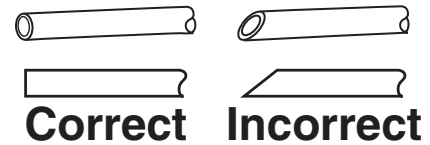

Figure 4
7. Determine length of 3/8" tubing (not included) required from filter head outlet to faucet adapter by holding tubing in place ensuring it is of appropriate length. Do not kink tubing as this will impede water flow. If necessary, loop tubing around to avoid it being kinked. Cut tubing straight with a razor knife. (See Figure 4)
9. Determine length of 3/8" tubing (not included) required from filter head inlet to cold water supply valve by holding tubing in place ensuring it is of appropriate length. Do not kink tubing as this will impede water flow. If necessary, loop tubing around to avoid it being kinked. Cut tubing straight with a razor knife. (See Figure 4)
Make sure tubing is cut straight. If not, recut correctly. Please refer to Figure 4.